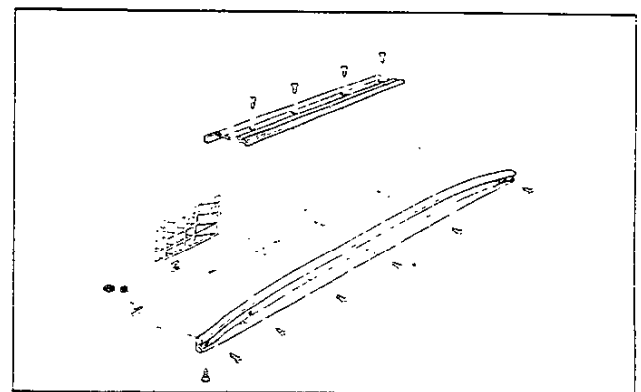

Fig. 38—Sill Plate and Trim Molding
Figure 38 illustrates assembly details of both the door sill plate and molding. The sill plate, which retains the carpet, the cowl trim kick panel, and lock pillar front edge trim, is mounted to the body by four (4) screws.